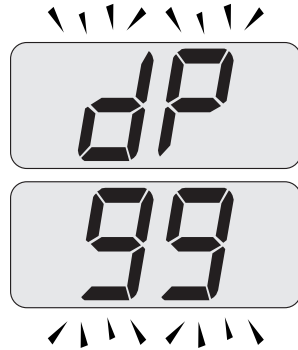

Fig. 10.22
- Press further key 18 to vary again the output in flue sweep mode: when the LCD display displays the letters **dP** that alternate with the heating water temperature value (e.g. **99**), the "flue sweep function" is at maximum output in domestic hot water mode (Fig. 10.22).